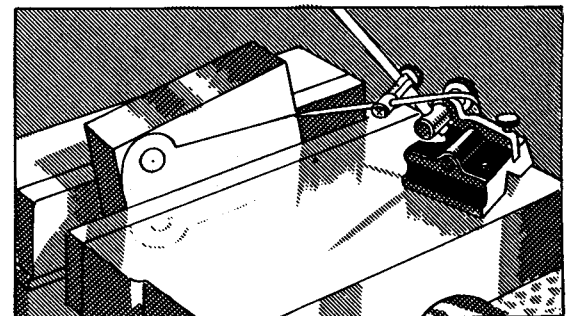

FIG. 303
1. Clamp the work in the vise temporarily with the layout line which indicates the finished surface as nearly level as it is possible to set it by eye (Fig. 303).